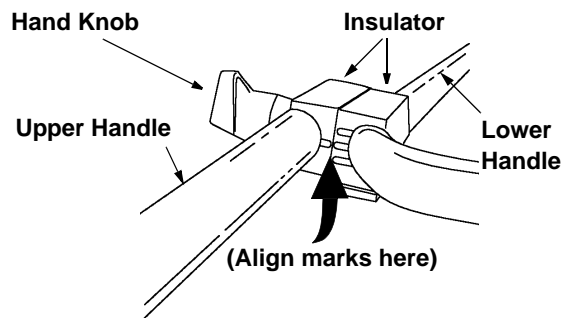

Figure 4
- The upper handle may be adjusted to three different height positions. To adjust the handle at the desired position, align one of the three marks on the top of the lower handle insulators with the mark on the upper handle insulators. See Figure 4.
- The upper handle may be adjusted to three different height positions. To adjust the handle to the desired position, align one of the three marks on the top of the lower handle insulators with the mark on the upper handle insulators. Refer to Figure 4.